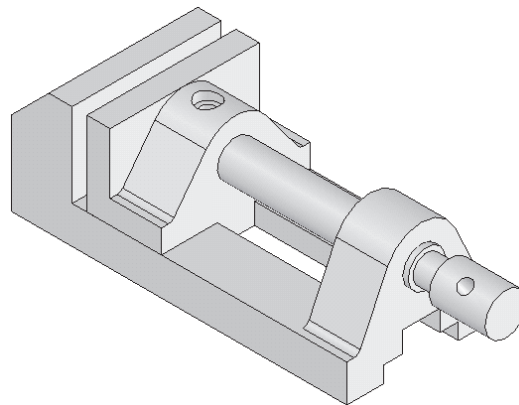

Figure 12-66 Assembly after applying the **Coincident** mate to the Jaw Screw
10. Choose the **Add/Finish Mate** button from the **Mate** pop-up toolbar. The assembly after adding the **Coincident** mate is displayed in Figure 12-66.